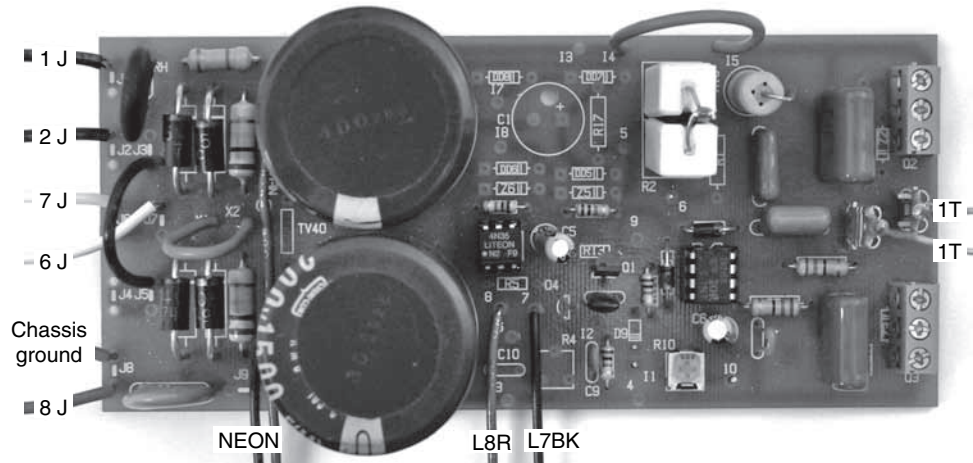

Figure 1-7 Line-driver PCB, assembled.
- L8R: red wire going to line-driver printed circuit board (PCB) (see Fig. 1-7)
- L7BK: black wire going to line-driver PCB (see Fig. 1-7)
Solder the components and wires to the board as shown in Fig. 1-7 (note that some component locations are unfilled because this board is also used for other designs). If a perf board is being used, take a marker and trace out component locations on one side and wiring connections on the other before starting the soldering.
1T: Litz wire going to line-driver PCB (see Fig. 1-7)
- 1J: black wire going to line-driver PCB (see Fig. 1-7)
- 7J: white wire of 115-Vac input power cord going to line-driver PCB (see Fig. 1-7)
- 8J: green wire of 115-Vac input power cord going to line-driver PCB (see Fig. 1-7)
- NEON: red and black wires going to line-driver PCB (see Fig. 1-7)